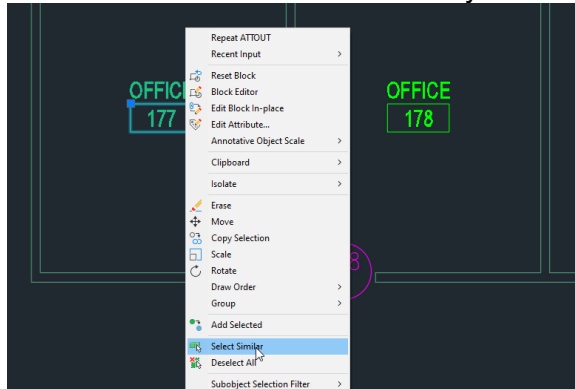

Figure 5: Quickly select all instances of a block with the Select Similar command.
1. Select a Block with Attributes you would like to update. Right-click, and then choose Select Similar to select every instance of the block in the drawing as shown in Figure 5.